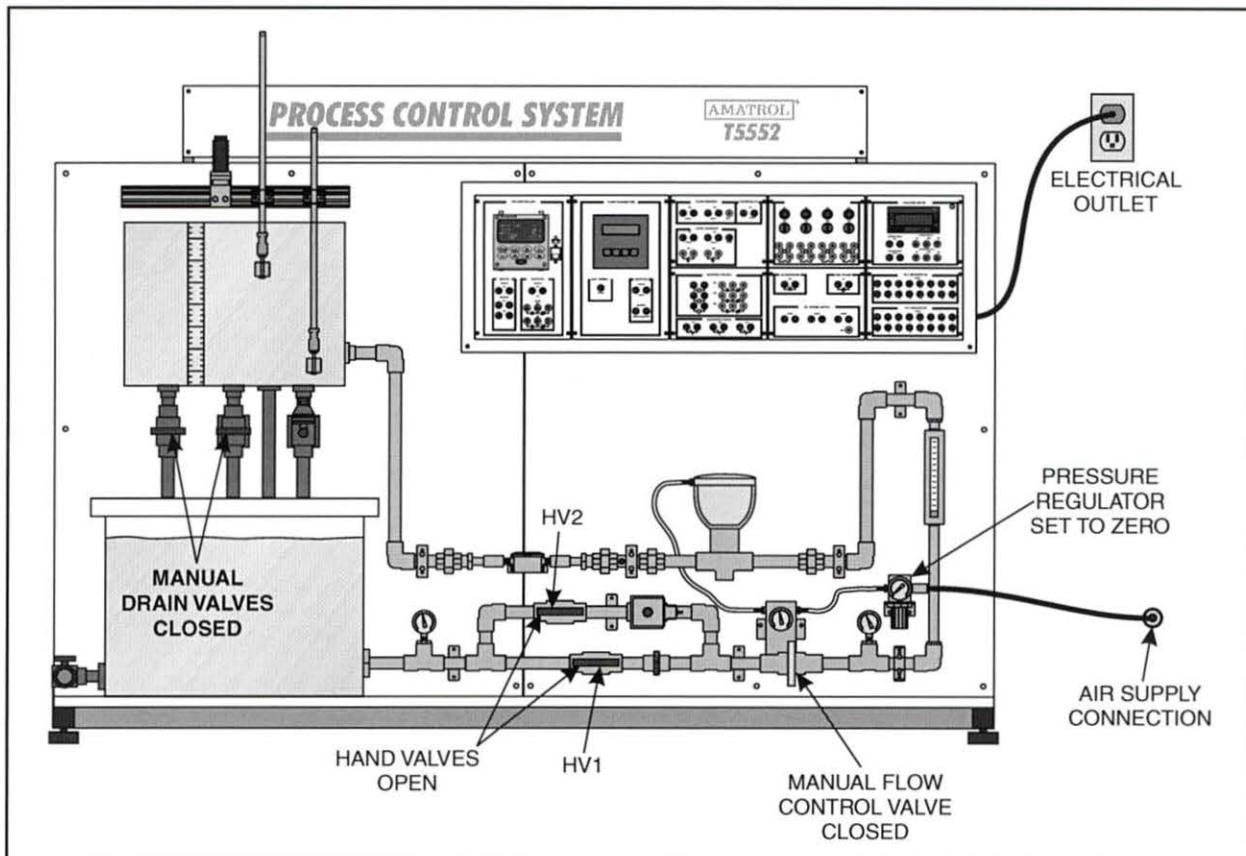

Figure 12. T5552 Setup
- 2. Perform the following substeps to set up the T5552, as shown in figure 12.